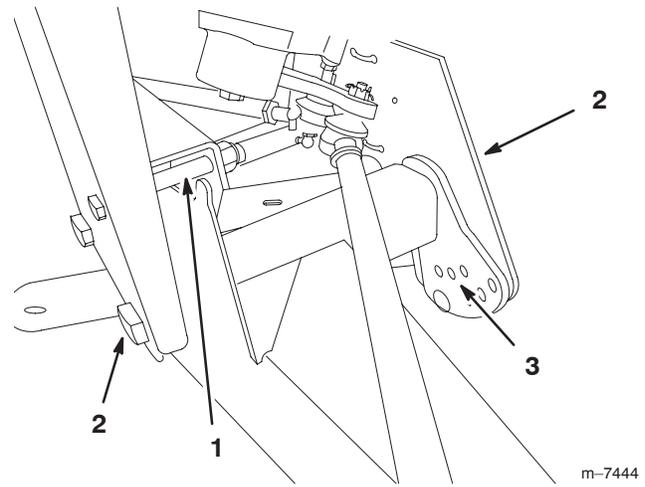

Figure 36
2. Remove the travel limiting bolt (Fig. 36).
3. Loosen the centering bolts in the front A-arm (Fig. 36).
4. Remove the ride height adjustment bolt (Fig. 36).
5. Rotate the front A-arm to the desired position (refer to the note below) and replace the ride height adjustment bolt (Fig. 36).
7. Replace the travel limiting bolt (Fig. 36).